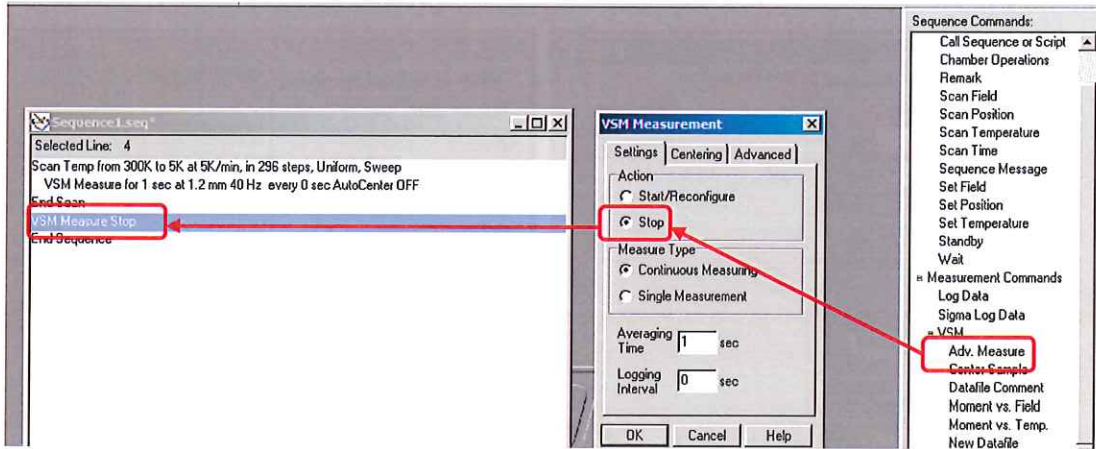

Fig 21b Simple M vs T scan temperature sequence terminated by VSM Measure Stop command
- VSM Measure Stop command at the end of the sequence (fig 21b).